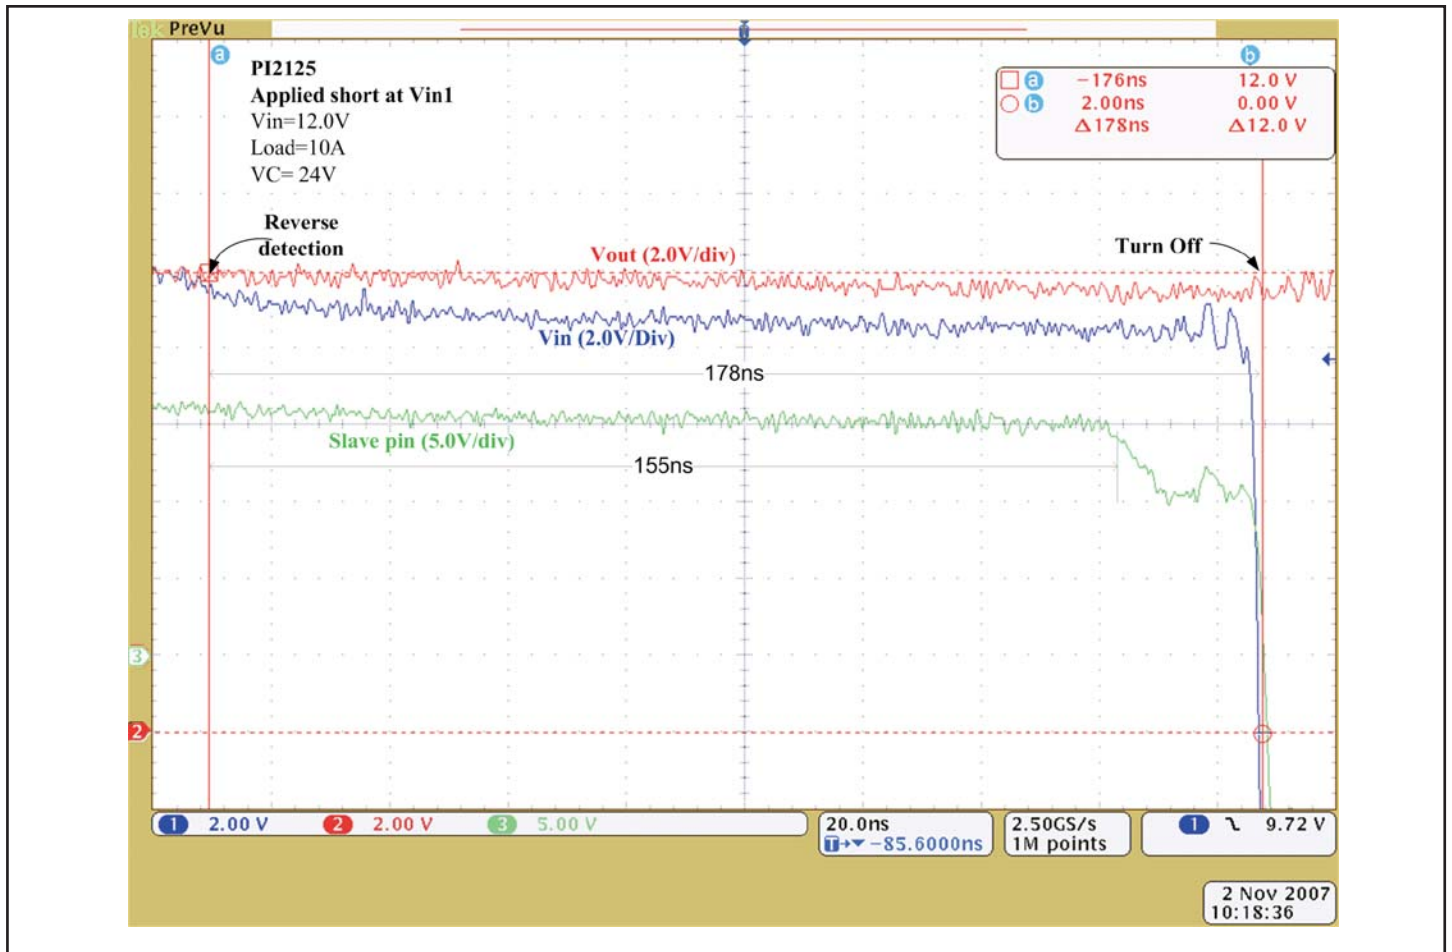

Figure 5 – Plot of PI2125 response time to reverse current detection
- 7.3 Apply a short at one of the inputs (Vin1 or Vin2) when the evaluation board is configured with both SIP's (SIP1 and SIP2) in master mode. The short can be applied electronically using a MOSFET connected between Vin and Gnd or simply a by connecting Vin to Gnd. Then measure the response time between when the short is applied and the SIP internal MOSFET is disconnected (or turned off). An example for PI2125 response time to an input short circuit is shown in Figure 5.